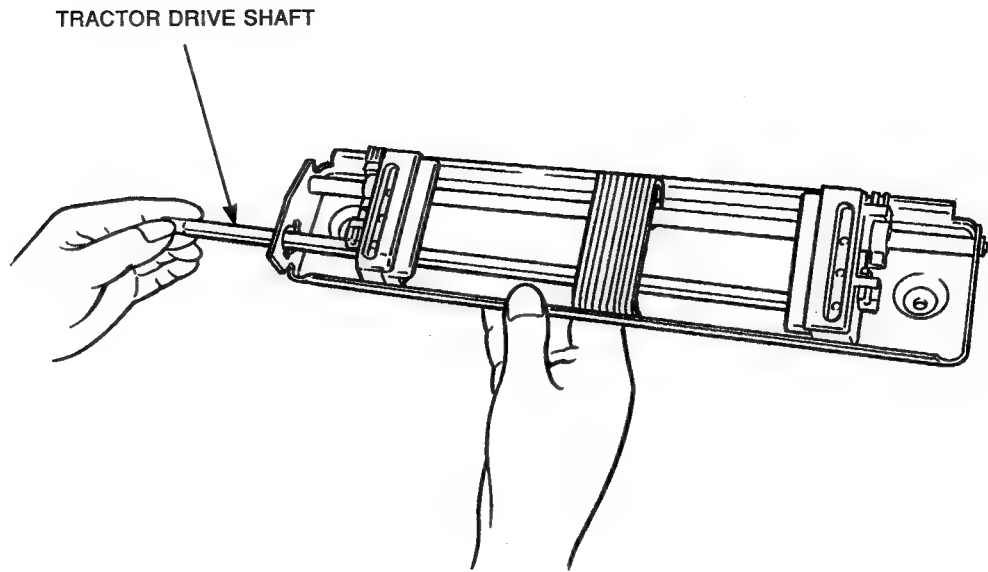

Figure 3-60 Tractor Drive Shaft
4. Slide and remove the tractor drive shaft (see Figure 3-60).